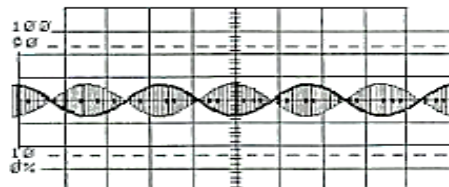

Figure 4-15.
18. Trigger the oscilloscope on channel 1, and set the oscilloscope sweep to 0.1 ms/DIV. Continue to increase the oscillator's frequency by slowly turning the NEGATIVE SUPPLY knob CW until the channel 2 signal appears, as shown in Figure 4-15. What type of signal is the LSB FILTER'S output?